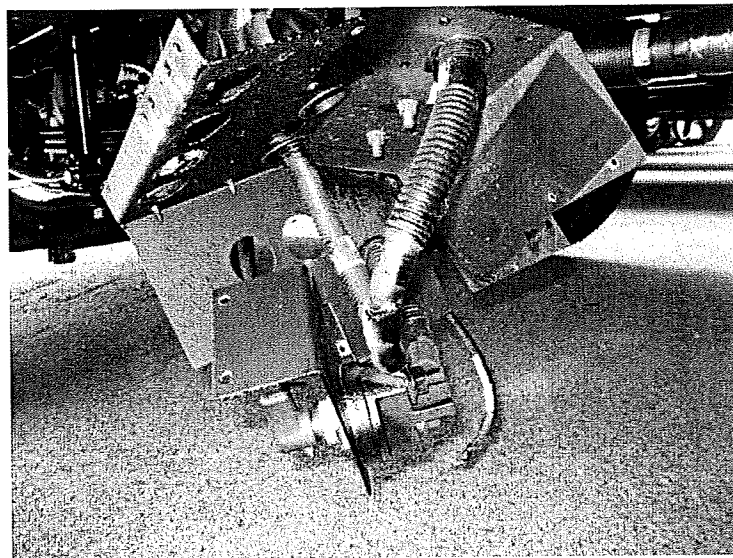

Figure 4
9. Unbolt the Disconnect Switch mounting bracket from the enclosure. This will allow the Main Battery and Starter cables to be disconnected from the Disconnect Switch. Retain the Disconnect Switch bracket assembly and terminal hardware for reuse in the new enclosure. **Figure 4**